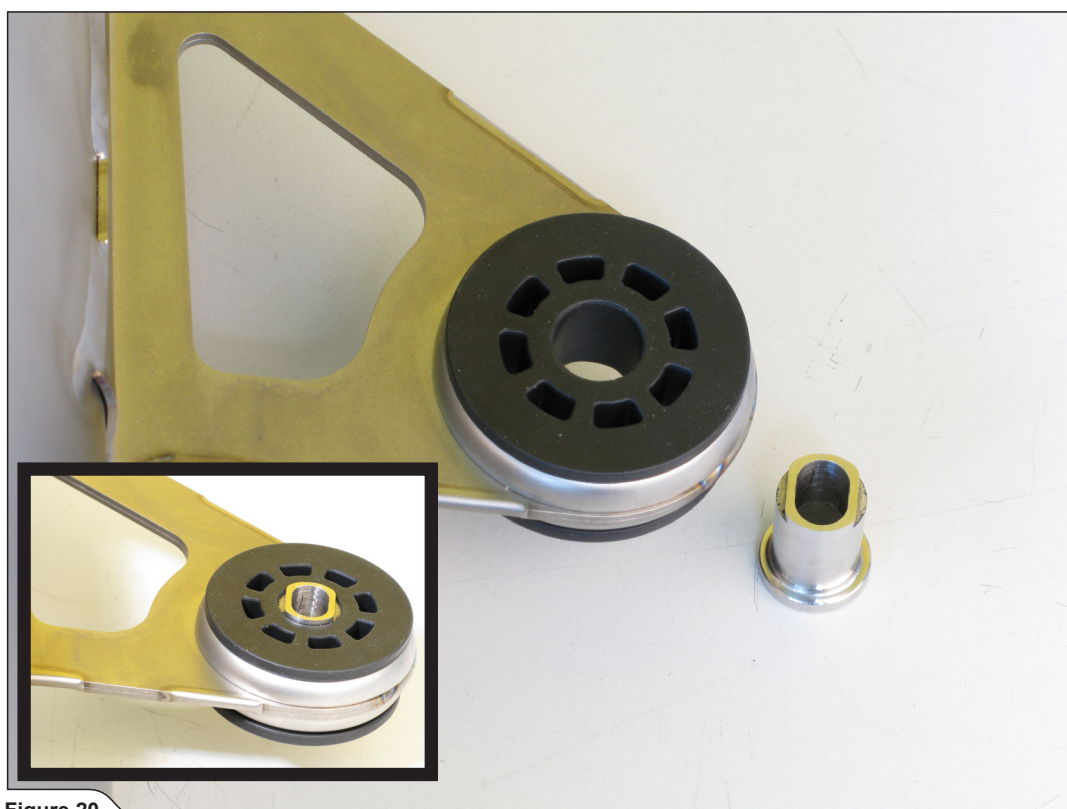

Figure 20
15. Insert the sleeve from Akrapovič installation kit, into the rubber muffler's bracket, as shown (Figure 20).